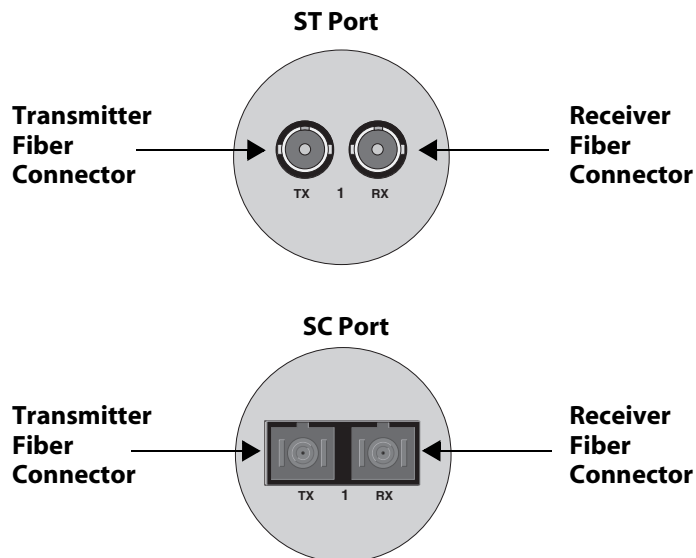

Figure 33. ST and SC Ports
- ❑ ST and SC ports consist of two separate connectors, as shown in Figure 33. Each connects to a separate fiber strand. One is for receiving data and the other is for transmitting data. When connecting a fiber optic cable to a ST or SC port, be sure that the receiver fiber connector is connected to the transmitter connector on the remote end-node, and the transmitter fiber connector is connected to the receiver connector on the remote node.